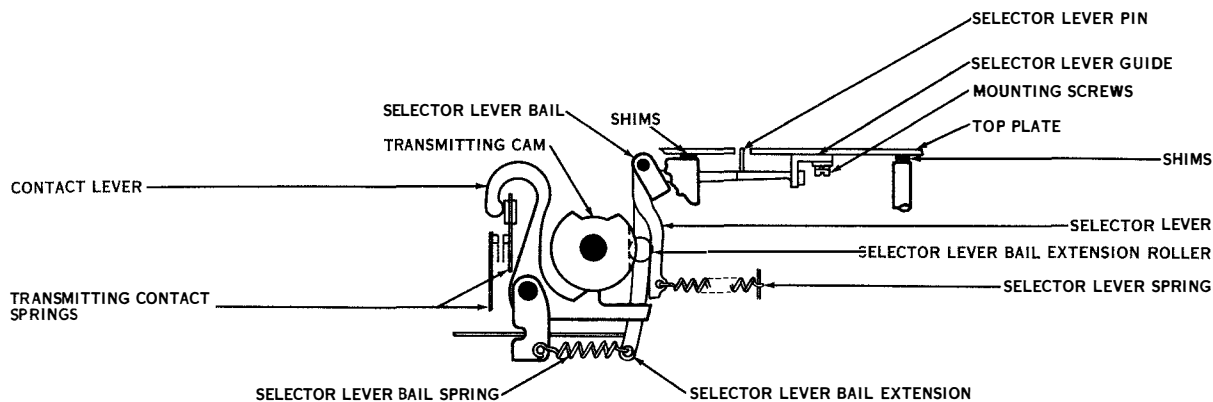
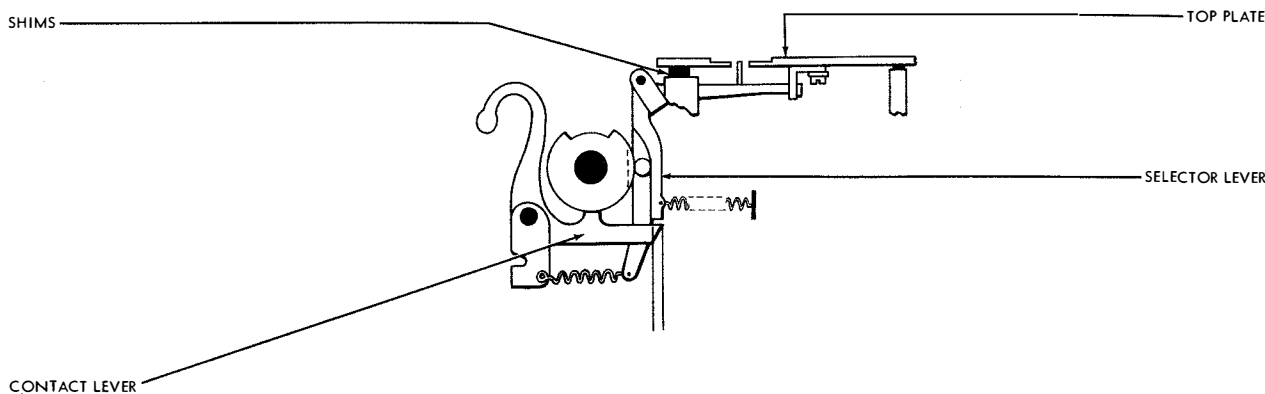

Figure 2-51. Selector Lever in the Marking Position
Figure 2-53. Selector Lever in the Spacing Position
4. There are five contact levers, each riding a cam on the cam sleeve (see figures 2-51 and 2-52). As each lever drops into the indent of the cam, its respective contact points close. The cam indents are positioned so that the No. 1 contact points close and open first, then the No. 2, etc., close and open until all five have closed and opened in sequence during one revolution of the cam sleeve. When the contact points close, a marking condition is put on the signal line.
5. The position of the selector lever determines whether or not the contact lever is blocked or permitted to ride into the indent of its cam. If a selector lever pin passes through a perforation in the tape, the selector lever moves out of the path to be taken by the end of the contact lever and permits the contact lever to rotate when it rides in and out of the indent in its cam (see figure 2-51). If a selector lever pin is blocked by the tape, the selector lever blocks the contact lever and prevents its movement (see figure 2-53). The transmitting contact will then remain open and a spacing condition is created on the signal line.
for perfect alignment between the perforations in the tape and the selector lever pins (see figure 2-51).